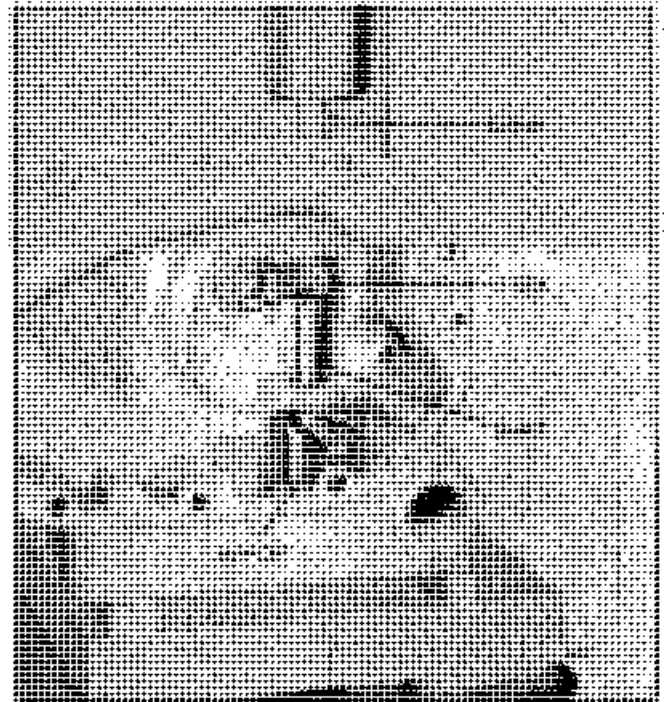

FIG. 20 Installing Governor Operating Shaft Fork
- f. Support the governor housing and operating shaft assembly on the bed of an arbor press with the upper end of the operating shaft resting on a steel support as shown in Fig. 20. Place a 7/16" inside diameter sleeve over the end of the shaft and against the fork, then press the fork tight against the shaft spacer on the shaft.
- h. Support the governor housing and operating shaft assembly on the bed of an arbor press with the upper end of the operating shaft resting on a steel support as shown in Fig. 20. Place a 7/16" inside diameter sleeve on the inner race of the bearing and press the bearing on the shaft until it seats on the shoulder in the housing.
FIG. 20 installing Governor Operating Shaft Fork